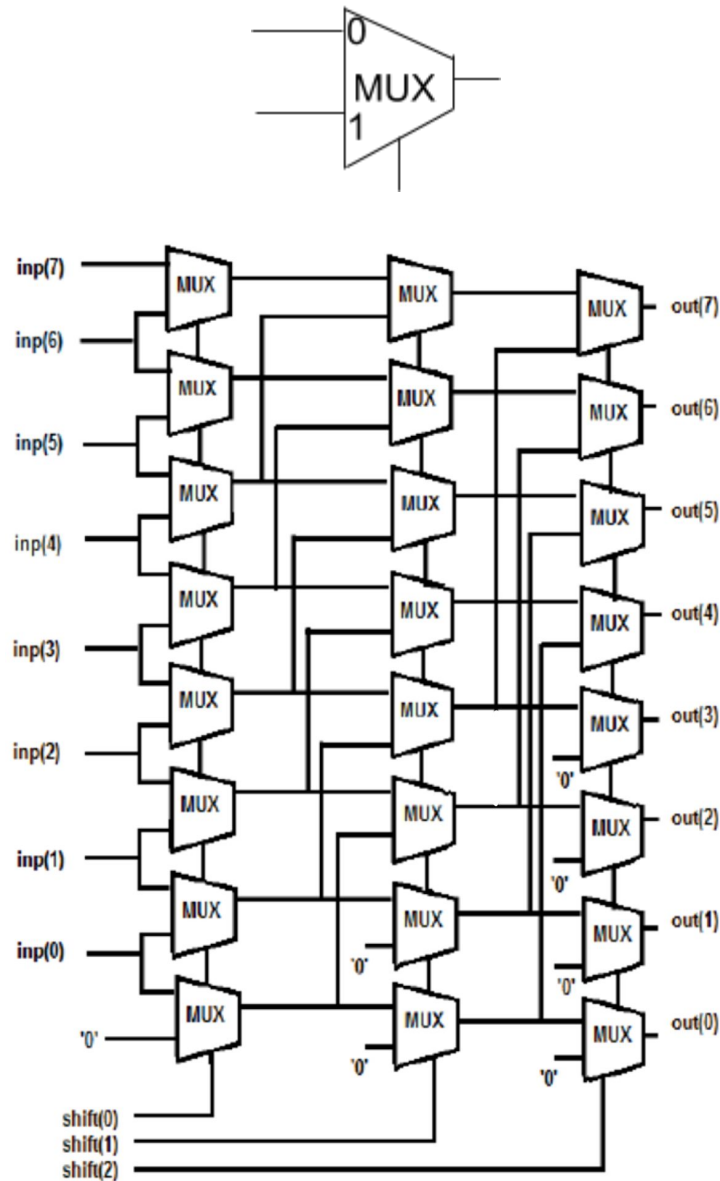

Figure 1 – schematic of a 8-bit barrel shifter. “inp” represents the input (original bits position) and “out” represents the output (after bit shifting).
Figure 1 shows a 8-bit barrel-shifter as an example. The logic circuit allows shifting the input data word left, where the amount of shifting is selected via the control inputs termed “shift”. Several processors include barrel-shifters as part of their ALUs to provide fast shift (and rotate) operations.
The logic circuit shown in Figure 1 consists of three stages of 2-way MUX, with one multiplexer per bit of the input data *inp[8]* which is binary representation for *N*.
- $x[16]$ ($inp[8]$ used in above illustration in Figure 1) is the binary representation for number N which needs to be shifted left by b bits, $N<<b$.
- $y[16]$ ($shift[3]$ used in above illustration in Figure 1) is the binary representation of b by which data needs to be shifted left, resulting in
- $out[16]$ ($out[8]$ used in above illustration in Figure 1) is the binary representation of $N \ll b$